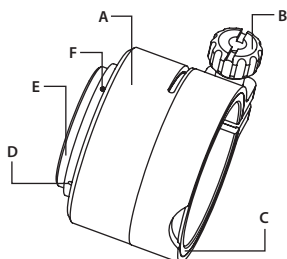

FIGURE 3-10. SCOPE MOUNTING SYSTEM
To install the CO-MINI on the lens of a day scope, do the following (refer to Figure 3-10):
3. Using a screwdriver, remove both screws M2×2.5 (F, see Figure 3-10) and then unscrew the ring (E).